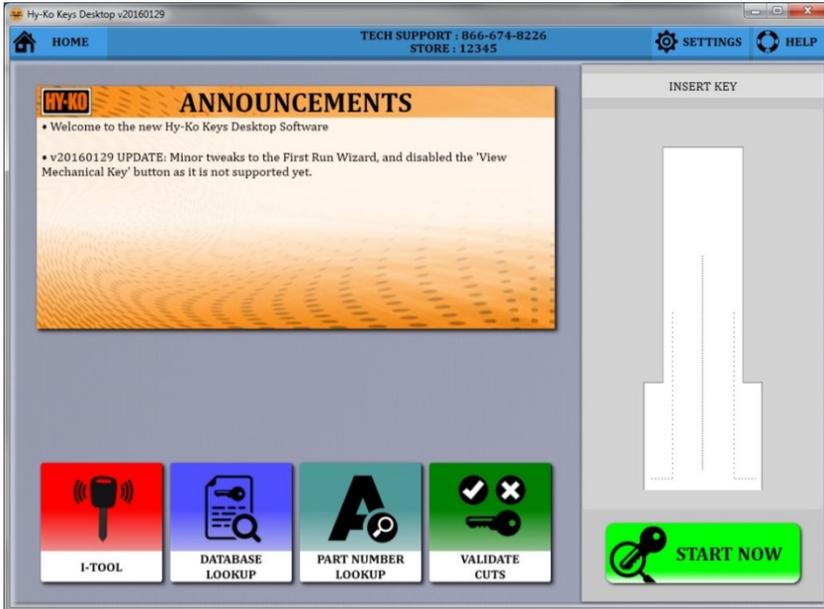

fig. 29
- To scan a key you want to start on the Home Screen. If the software is not on the Home Screen click **'HOME'** in the upper left corner of the screen (see fig. 29).